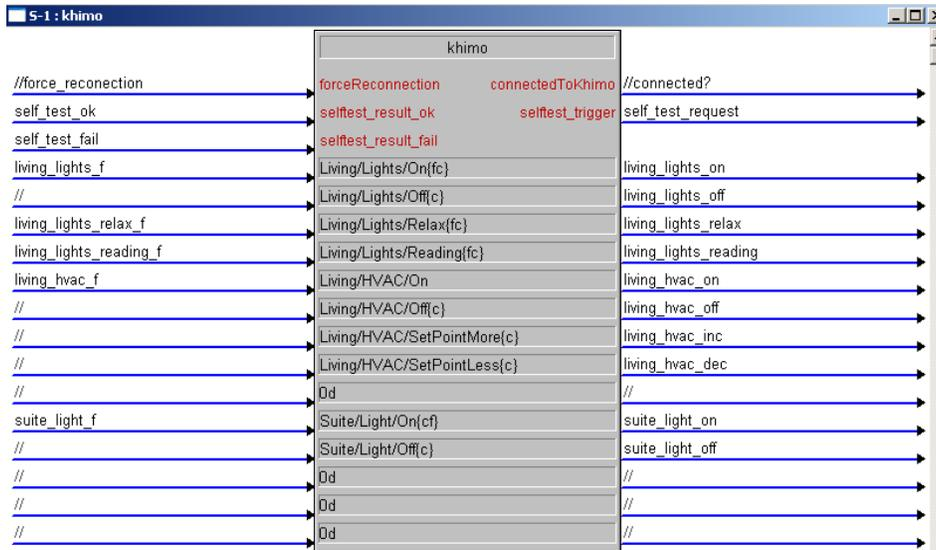

Figure 1: Signals defined in Creston
- Connection monitoring (Figure 1).
- System self test (Figure 1).
As shown in figure 1, the Khimo module provides 2 connection signals: